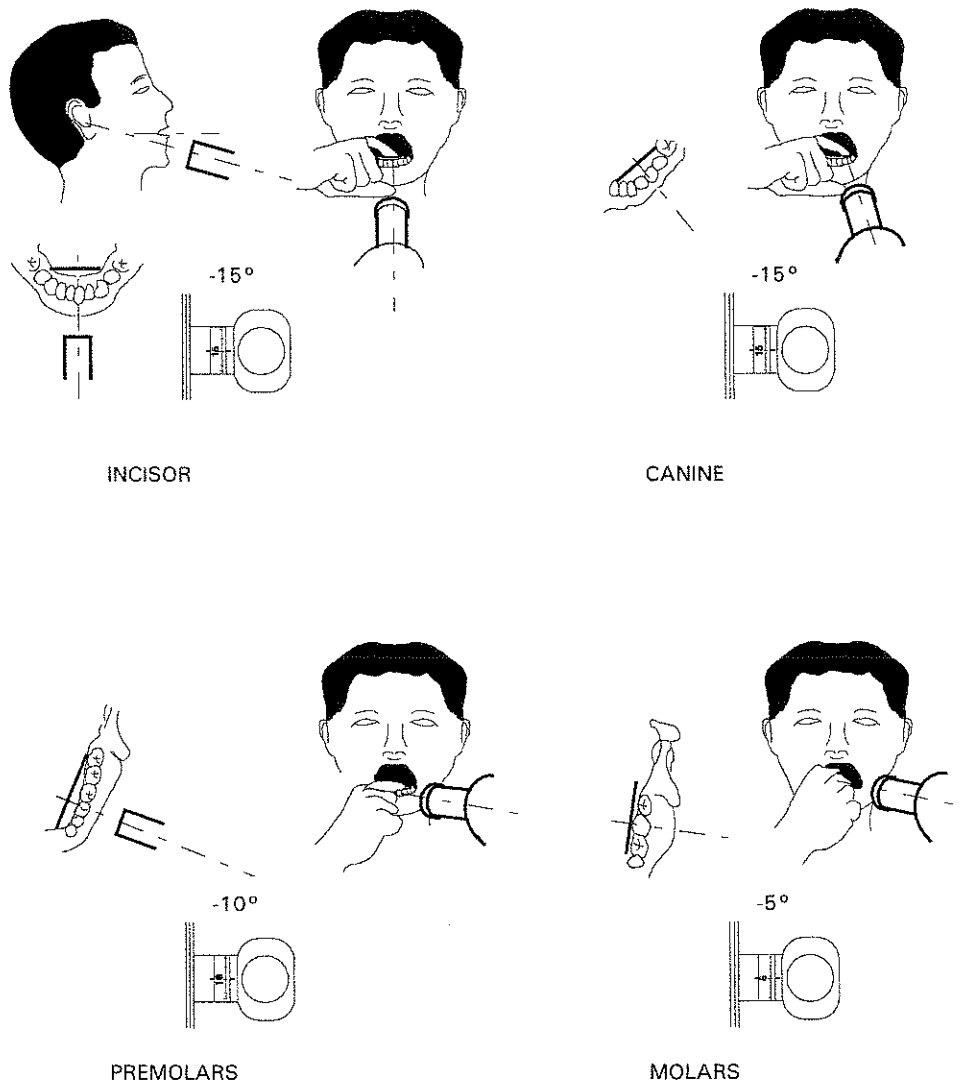
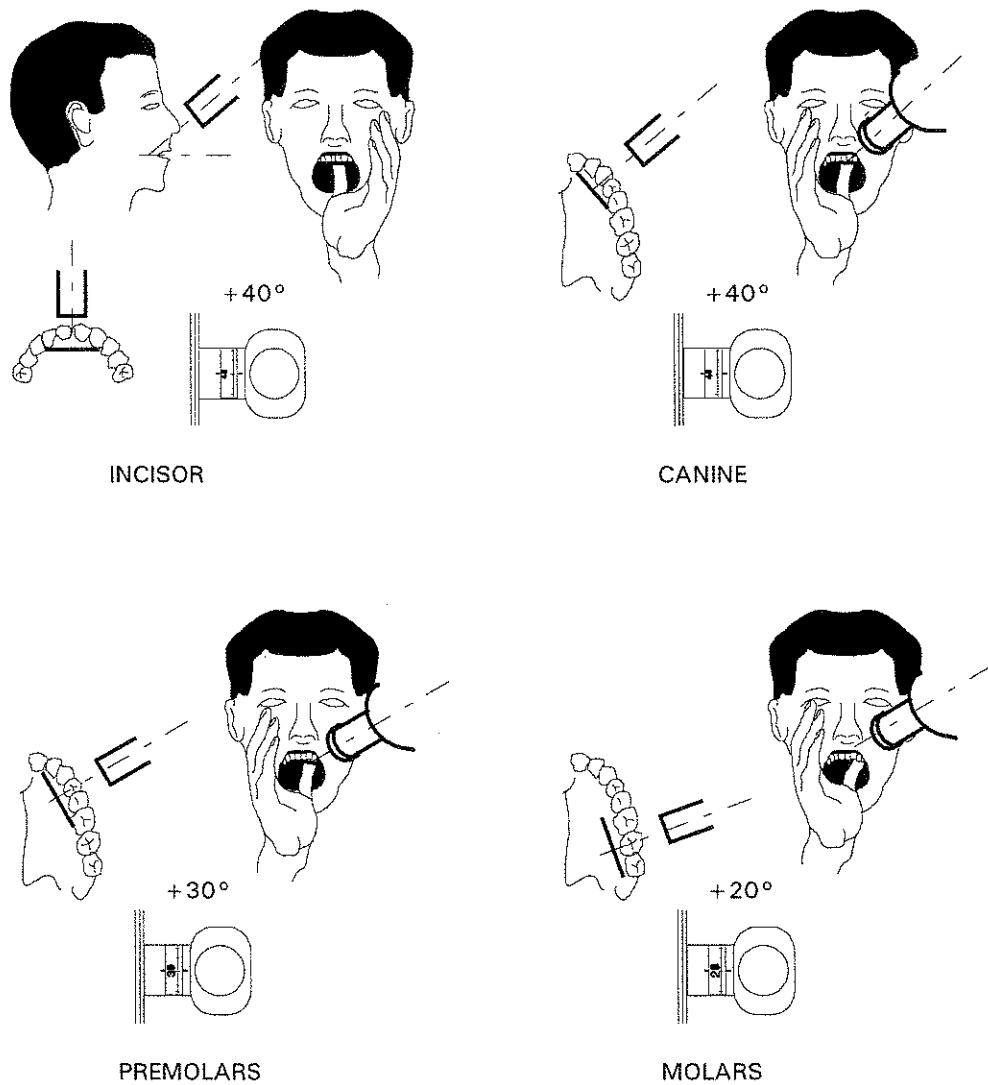
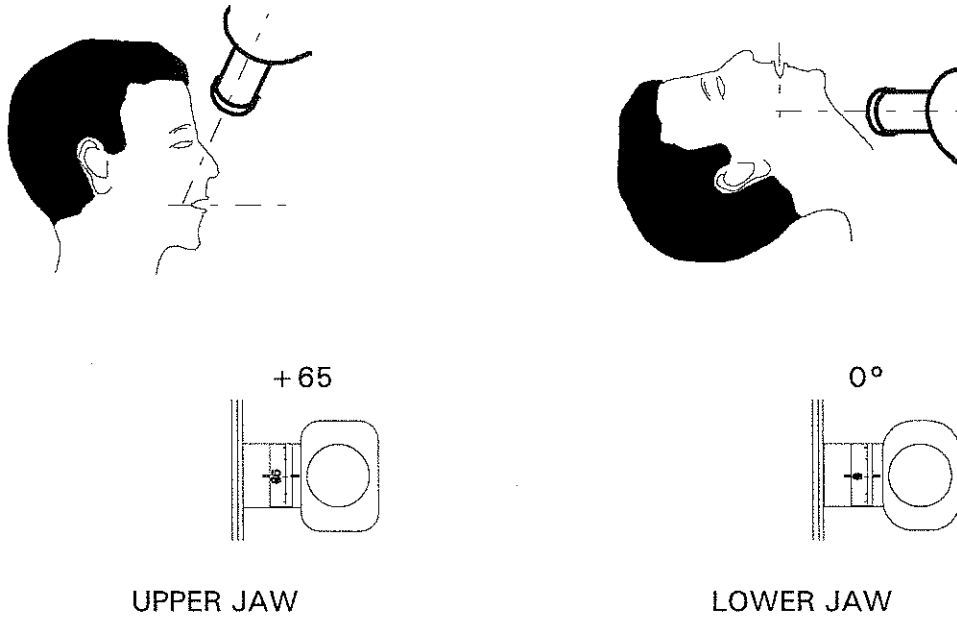
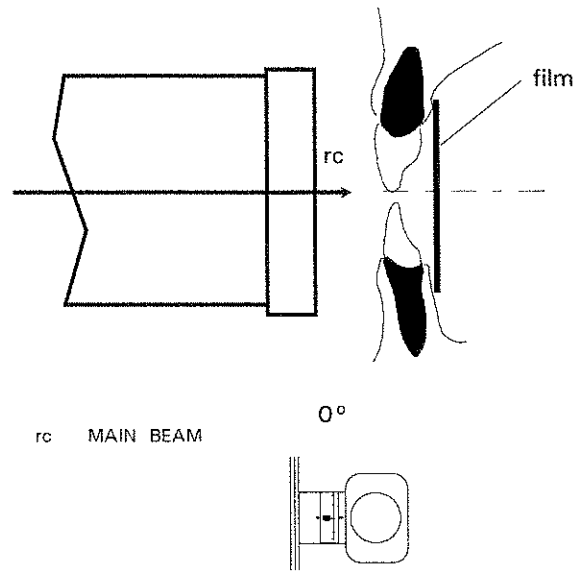

Figure 4
Figure 5
Figure 6
Figure 7
- a) Arrange Tubehead according to an angle suitable for type of exposure and positioning required (see Figure 4, Figure 5, Figure 6 and Figure 7 from Page 21 and following)
- c) Depress the X-Ray button "7" (Fig. 7 page 16) keeping it depressed throughout the exposure.